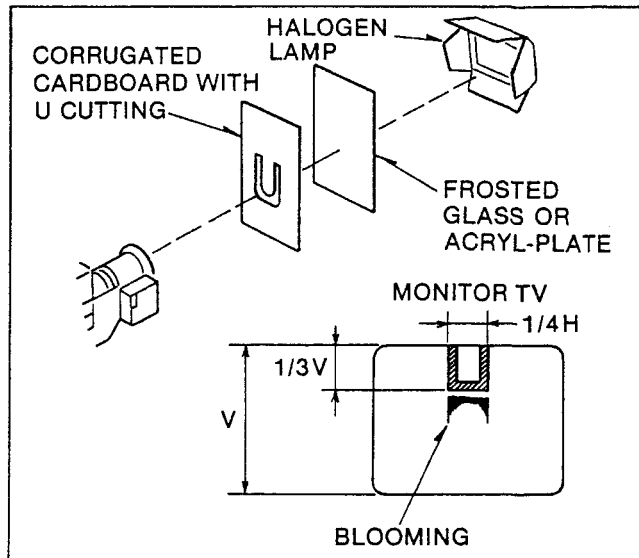

Fig. C7
- (1) Zoom all the way in fully tele position and aim the camera at the Halogen lamp as shown in Fig. C7.
- (2) Set the High Speed Shutter SW to OFF position.